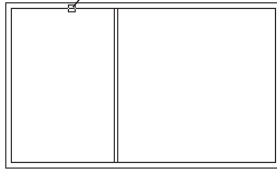

FIGURE 4.10: Selecting another wall line to offset
9. Pick a point on the inside, upper exterior wall line (see Figure 4.10).